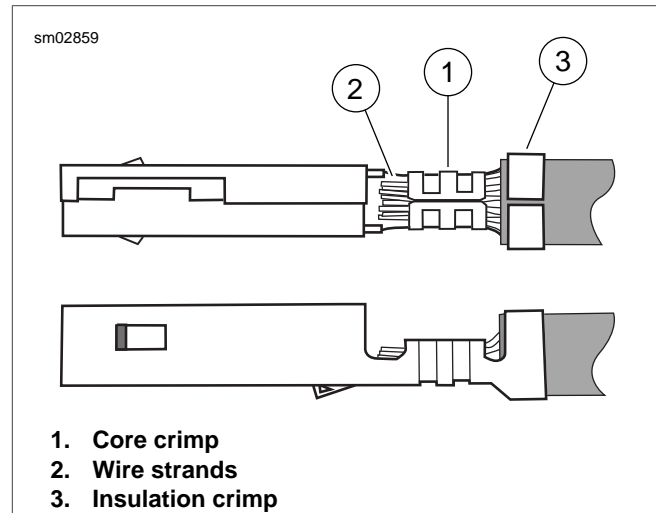

Figure A-57. Terminal Crimp
- a. See Figure A-57. The core tails should be creased into the wire strands at the core crimp (1).
- b. Strands (2) of wire should be visible beyond the core crimp but not forward into the terminal shell.
- c. The insulation tails should be folded into the insulation (3) without piercing or cutting the insulation.